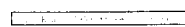

Fig. 24.
- 5 Fine-tune the channel with Δ or ∇ so that you get the best TV reception. As you press the cursor buttons, the frequency changes from -15 to +15. (See Fig. 24.)